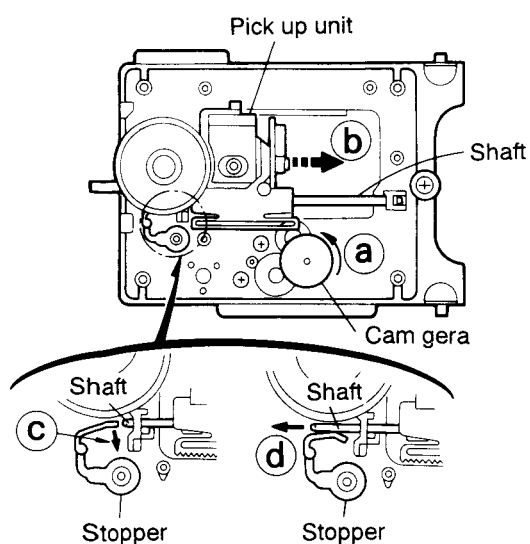

Fig. 5-42
## ■ Removing the CD pickup unit (See Fig. 5-42)
2. According to the above step, shift the CD pickup unit to the center position (Fig. 5-42).
3. While pressing the stopper retaining the shaft in the arrow direction (c), pull out the shaft in the arrow direction (d) (See Fig. 5-42).